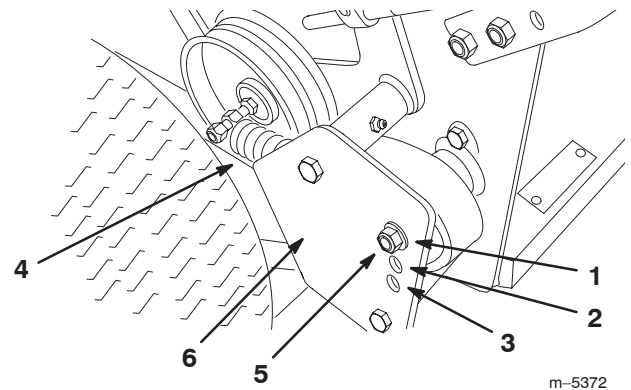

Figure 18
4. Remove the drive spring from the adjustment bolt (Fig. 18).
5. Remove the locknut that secures the adjustment bolt to the drive pulley shield (Fig. 18).
- Note:** The wheel drive tension is lowest when the bolt assembly is in Position A. The tension increases in Positions B and C (Fig. 18).